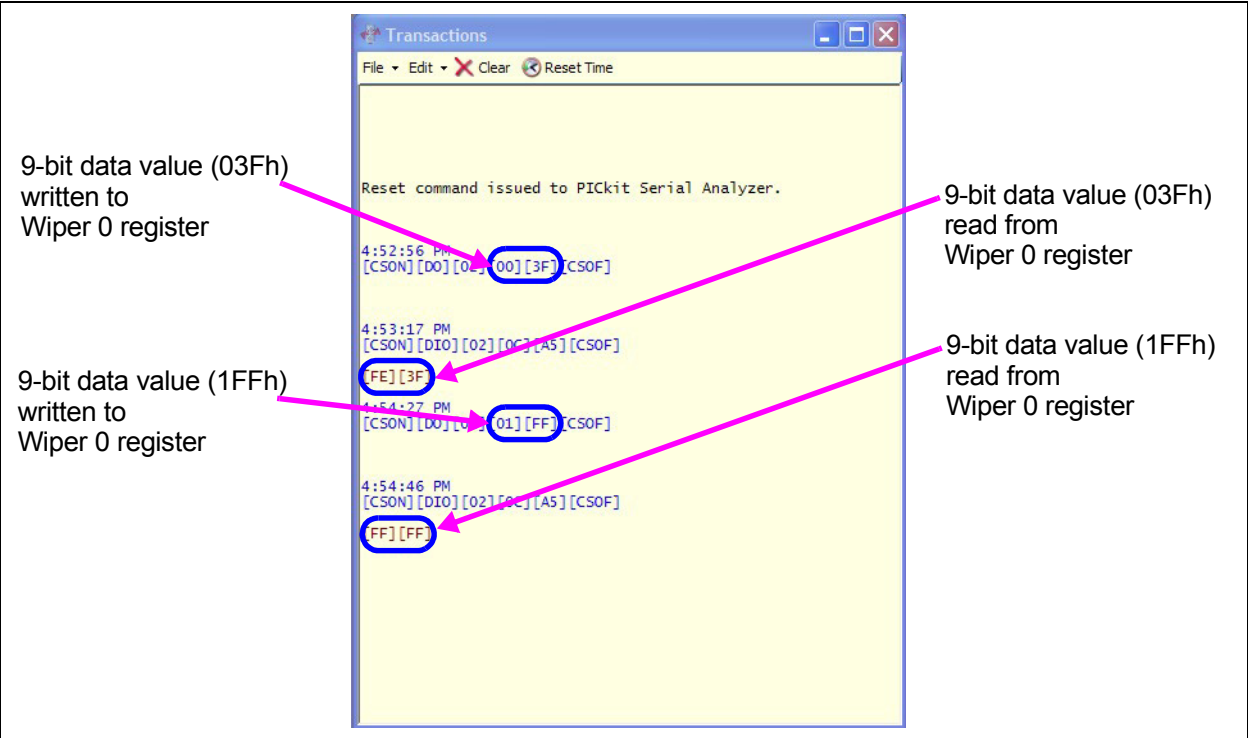

FIGURE 2-13: MCP4261 Transaction Window – Wiper 0 Writes and Reads.
10. Click on the **Execute Script** button. This executes the script shown in the Script Detail column, which will update the wiper value to 3Fh. The wiper voltage will now be $\sim V_{DD}/4$ ($\sim 1.25V$). The Transaction window (see Figure 2-13) will be updated to indicate the execution of the script.
12. Click on the **Execute Script** button. This executes the script shown in the Script Detail column. The Transaction window (see Figure 2-13) will be updated to indicate the execution of the script. The data read is shown in the last line.
14. Click on the **Execute Script** button. This executes the script shown in the Script Detail column, which will update the wiper value to 1FFh. The wiper voltage will now be $\sim V_{DD}$ ($\sim 5V$). The Transaction window (see Figure 2-13) will be updated to indicate the execution of the script.
16. Click on the **Execute Script** button. This executes the script shown in the Script Detail column. The Transaction window (see Figure 2-13) will be updated to indicate the execution of the script. The data read is shown in the last line.